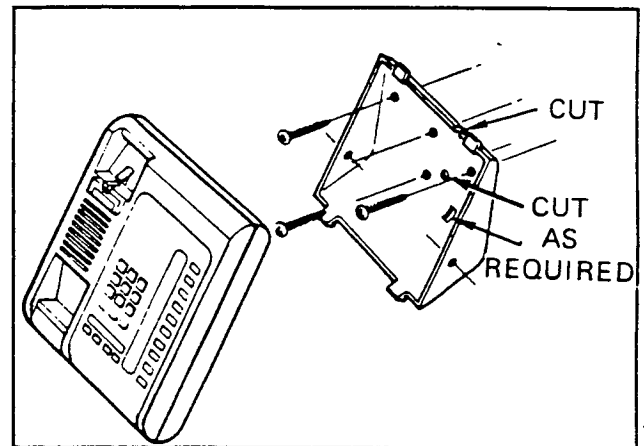

FIGURE 25—EKT WIRE ACCESS
10.25 Refer to Figure 25, choose which of the